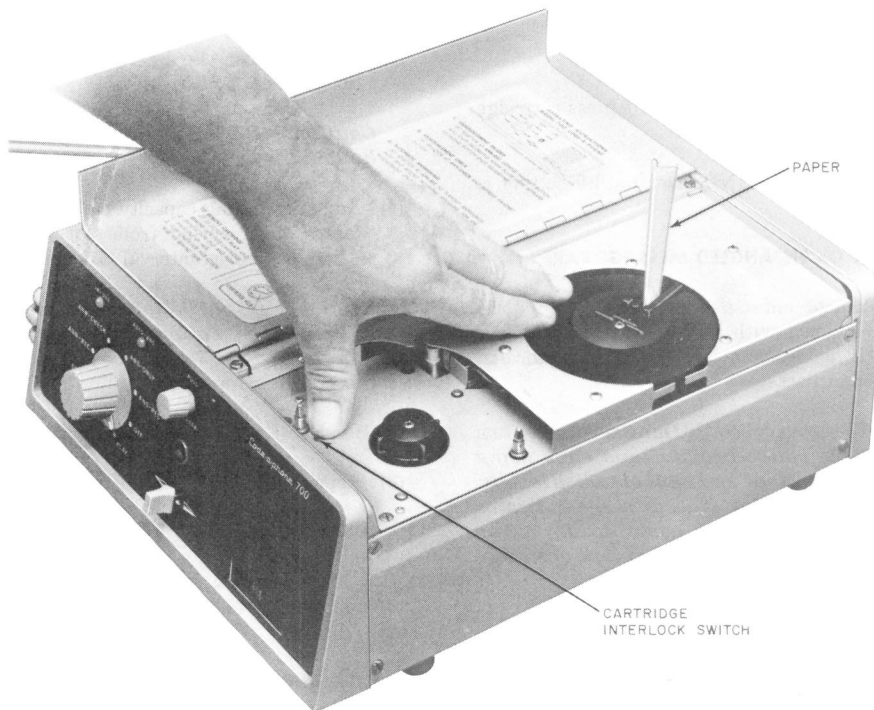

Fig. 7—Resetting "0" Registration on Message Indicator Dial
- (1) Remove top cover (2.01).
- (2) Remove list cartridge (6.01).
- (3) Remove four screws and remove side cover (Fig. 7).
- (1) Rewind tape into cartridge (0 setting on message indicator dial).
- (2) Set function selector to off.
- (3) Remove tape end from take-up reel by depressing and backing out of slot.
- (4) Turn cartridge hub clockwise by hand to rewind remaining tape into cartridge.
- (5) Grasp cartridge and lift up.
6.02 Cartridge Installation (Fig. 7):
- (1) Rotate cartridge hub (Fig. 7) by hand in either direction to set dial at 0.
For more rapid resetting, run set in rewind as follows (Fig. 7):